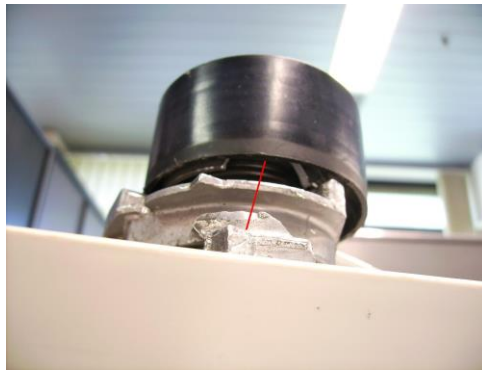
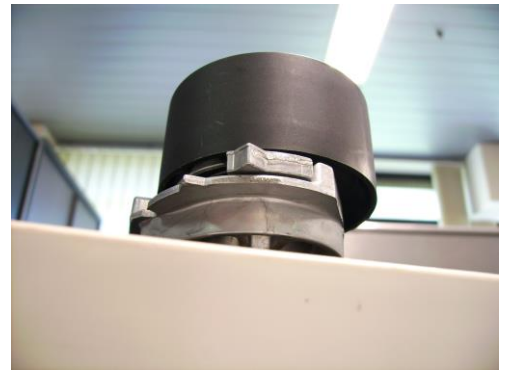

Fig. 2
Fig. 3
- Leaving the old tensioner on without even loosening the tensioner bolt is certainly not the correct way to work. Do not think that if the tension was OK before, and you do not touch it, it will remain OK; every belt has a little tolerance and also the wear of the pulleys can influence the correct setting. If one does not loosen the tensioner bolt, cutting the old belt to remove it, the pointer of the tensioner will hit the cold stop violently. This could seriously damage the pointer, resulting in a rupture (later on). Proceeding this way to install the new belt, the pointer of the tensioner has to be pushed back. When trying this with a screwdriver, one risks that the screwdriver will slip off the pointer (because of the high spring tension) which will again hit the cold stop. This can break off the tensioner pointer (Fig 2). Fig. 3 shows where the pointer is situated in its rest position on a good tensioner.